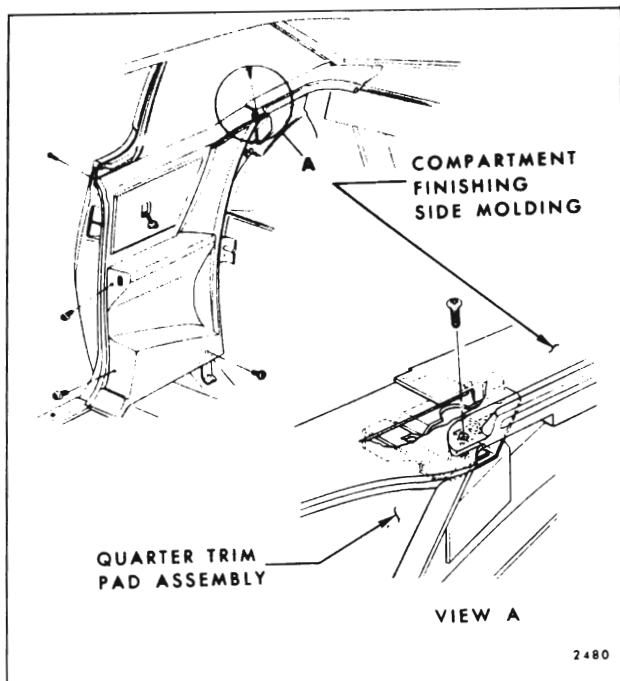

Fig. 14-30—Quarter Trim Assembly - Cadillac "E" Styles
4. Remove screw securing compartment finishing side molding to quarter trim (Cadillac Style only, Fig. 14-30).
NOTE: On Cadillac styles it is necessary to open quarter window to gain access to attaching screw from outside of body at beltline (Fig. 14-30).